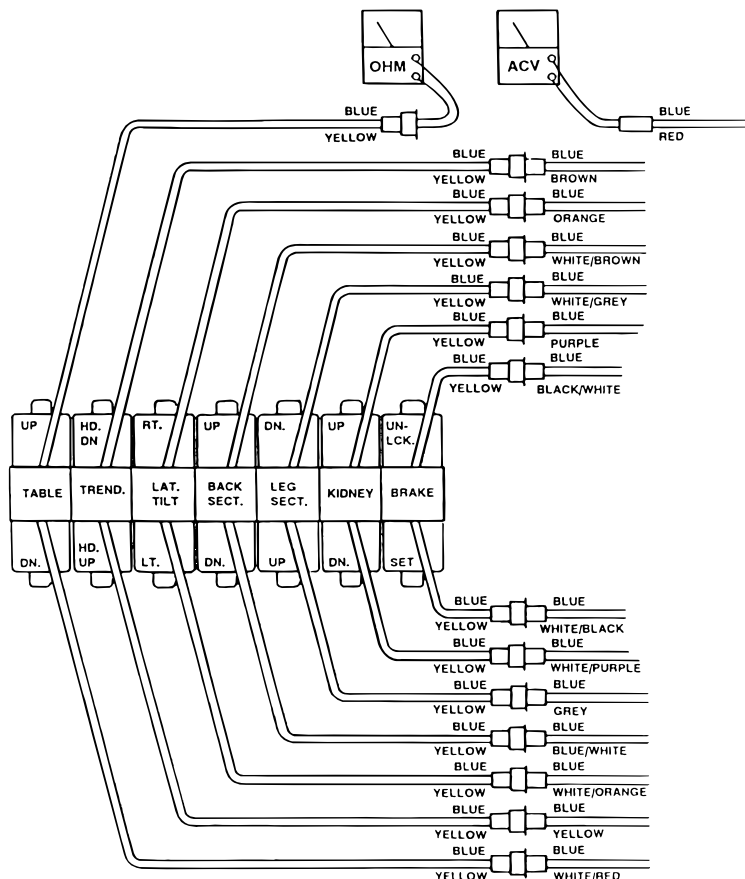

Figure 6-20. Solenoid Test
2. Disconnect the 2 pin connector from the solenoid in question, all other connectors should be connected. See figure 6-20.
1. Measure the resistance between the two pin connector in question as shown in figure 6-20. Connector must be disconnected. Polarity of meter leads is not important.